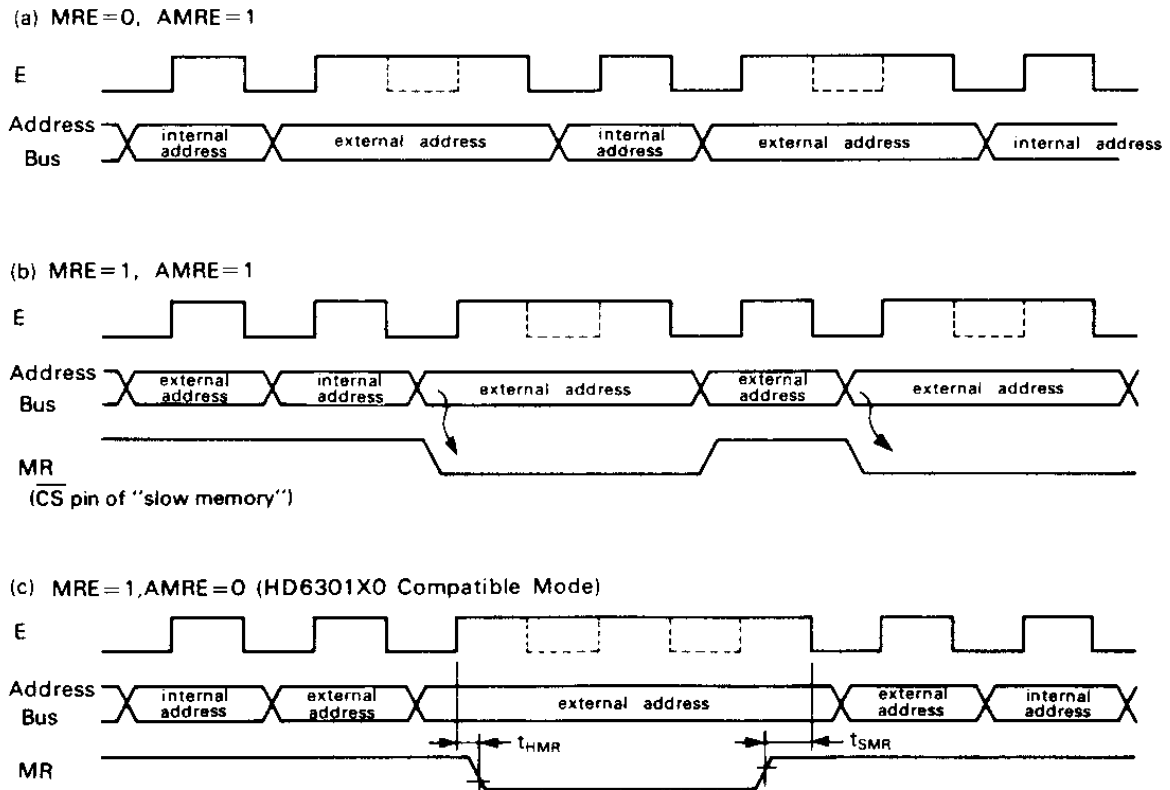

Figure 17 Memory Ready Timing
When the bit is set and the CPU accesses the external address, "memory ready" operates automatically and stretches the E clock's "High" duration for one system clock. When MRE bit of bit 2 is cleared and when the CPU accesses the external address space, the function operates. When MRE bit is set and then the CPU accesses the external address space with P52 (MR) pin in "low", "memory ready" operates automatically. In Mode 3, regardless of the bit value, the "auto memory ready" function is inhibited. (See Table 3 and Fig. 17.)